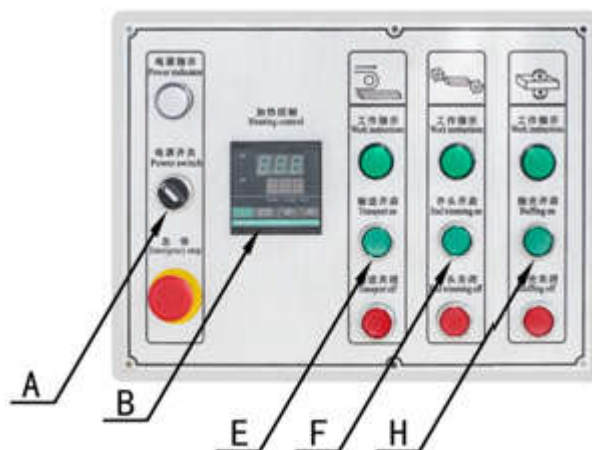

Figure 2
- (1) Check the movement of the moving parts should be no obstacle.
- (2) Tool clamping should be firm.
- (3) The lubricating parts should be good.
- (4) Pneumatic three pressure gauge indication in 0.6Mpa.
7.2.3 Electricity: (Figure 2)